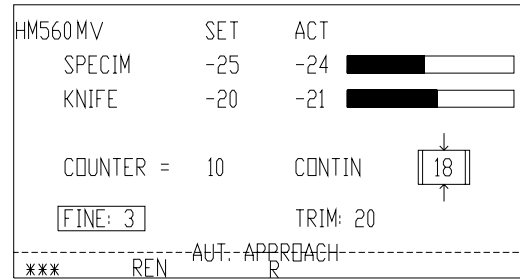

Fig. 26
- The red LED in this button (fig. 27.2) lights up and confirms the chosen function and AUT.APPROACH is shown in the status line (fig. 2.15) on the display (fig. 26).